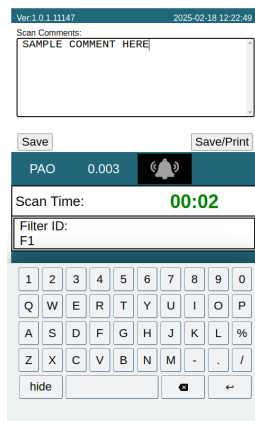
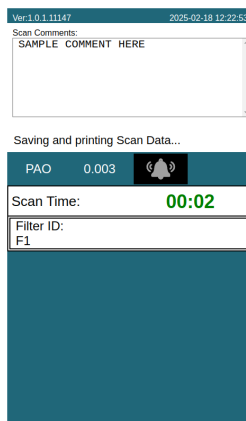

Figure 30. Save scan or Save/Print scan
Figure 31. Save/Print scan selected
Step 2. After a scan has been completed, the scan comments field will appear. After entering comments, the user will have the option to either Save the scan or Save/Print the scan (Figure 30). If Save/Print is selected, the scan leak data will be saved and sent to the thermal printer (Figure 31).